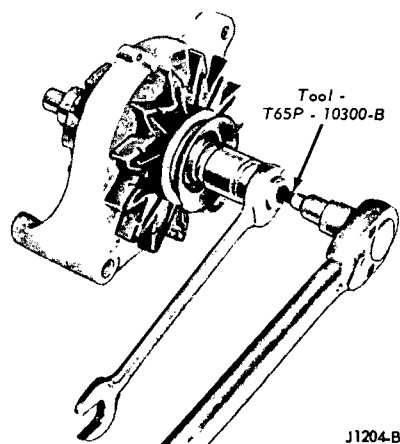

FIG. 5—Pulley Removal.
9. Remove the drive pulley nut, lockwasher, pulley, fan, fan spacer, rotor and rotor stop (Fig. 5).